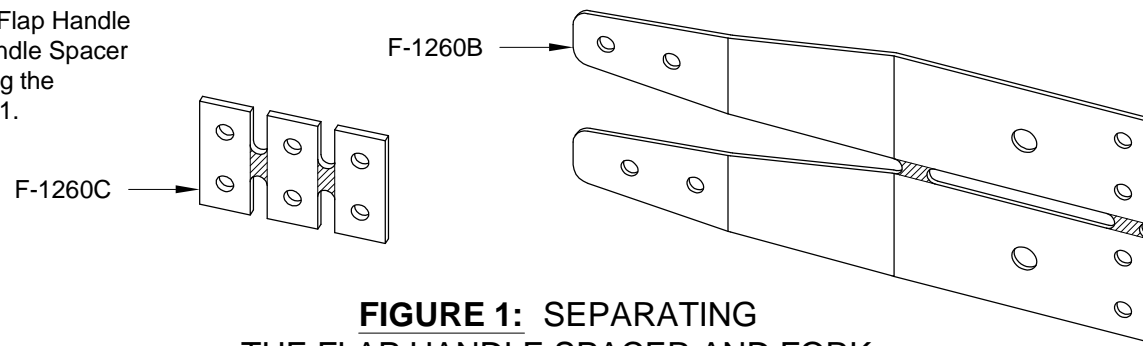

FIGURE 1: SEPARATING THE FLAP HANDLE SPACER AND FORK
Step 1: Separate the F-1260B Flap Handle Fork and the F-1260C Flap Handle Spacer into individual parts by removing the shaded areas shown in Figure 1.